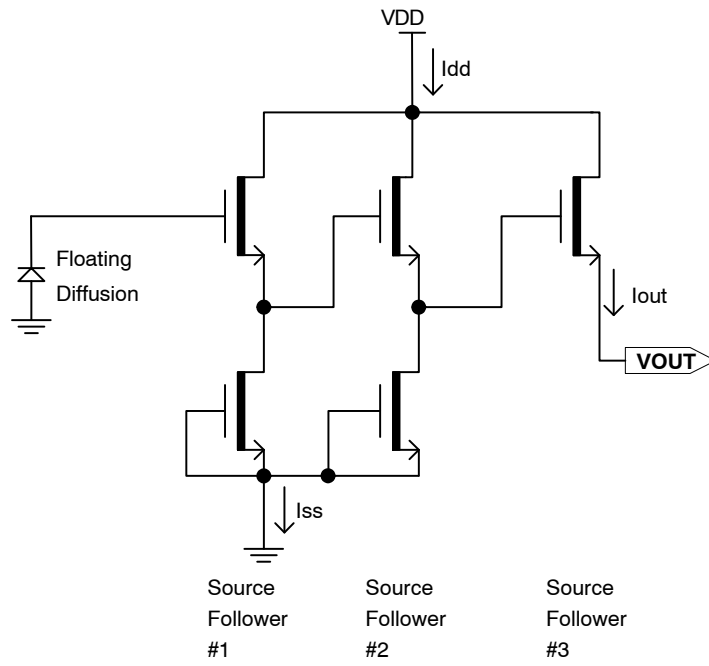

Figure 18. Output Amplifier
- Each output. See Figure 18: Output Amplifier. Note that the current bias affects the amplifier bandwidth.
- One output, unloaded. The maximum DC current is for one output unloaded and is shown as Iss in Figure 18. This is the maximum current that the first two stages of one output amplifier will draw. This value is with Vout disconnected.